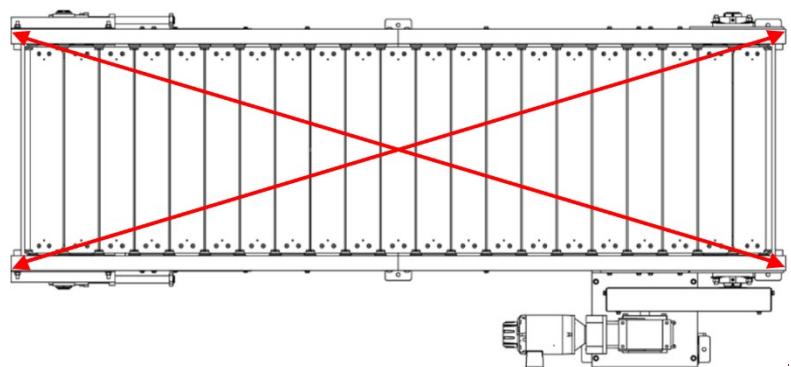

Figure 2.3 – Check the bed for square
- Check all bed sections for square. See Figure 2.3. Use a string stretched from opposing corners at edge of bed to aid in straightening conveyor. Ensure that both dimensions are the same. Adjust or shim supports as required. Both sides of the conveyor must be in the same plane (bed not twisted).